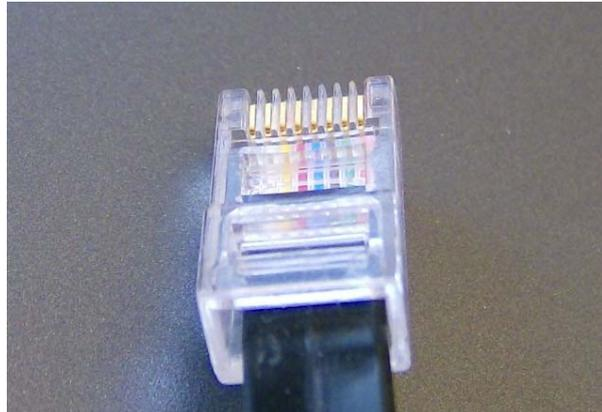

Fig. 10 Modular connector underside
- Check that all 8 contact surfaces are completely pressed down as shown in Fig. 10.